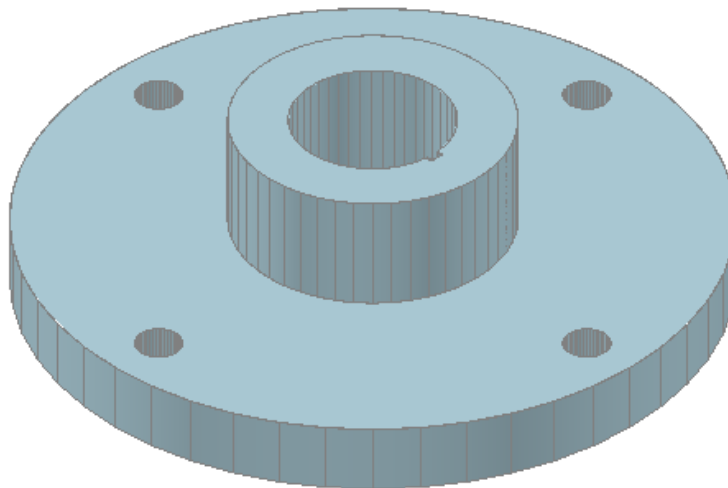

Figure Step 3
- Step 3** On layer: Surface 1, create regions and surfaces on all sides and holes. (Figure Step 3)